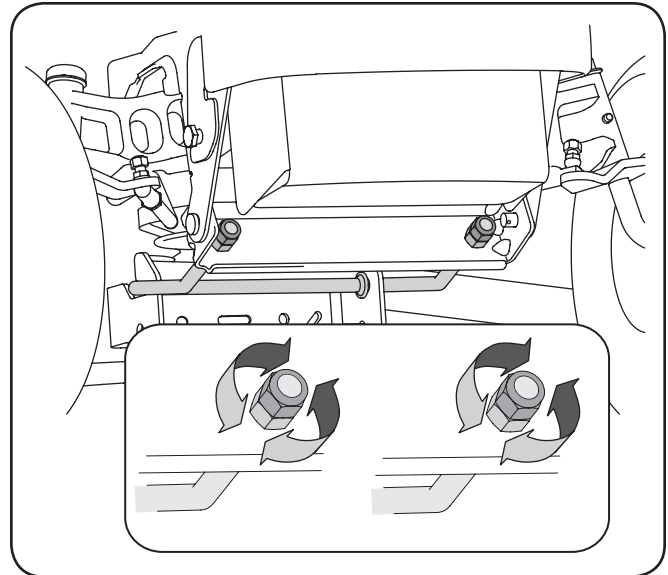

Figure 6-5
1. Loosen (thread outward) the hex lock nut on the end of each deck hanger rod. See Fig. 6-5.
3. To *lower* the front of the deck, loosen (thread outward) each hex nut, away from the front hanger bracket. See Fig. 6-5.